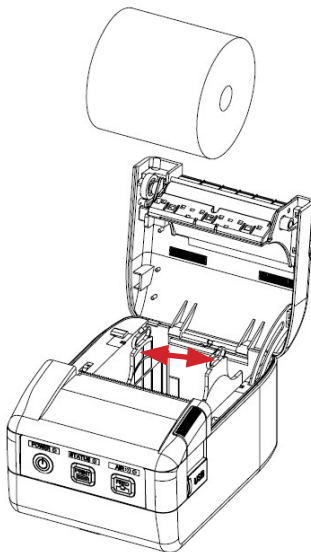
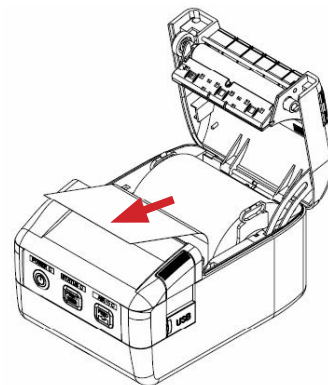

Figure 11a: Paper Guide
Figure 11b: Paper Roll
2. Gently pull the paper guides apart (*Figure 11a*) and insert the paper roll so that the end of the paper roll faces the back of the printer and comes up from the bottom of the compartment (*Figure 11b*).